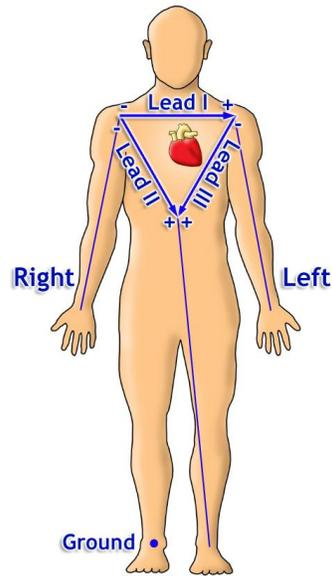

Figure 1: Einthoven Triangle LEAD Connections (Note Polarity)
1. Prep skin, place one EL503 electrode to the Right Leg (RL) location and then place two EL503 electrodes at the below indicated locations, for the desired LEAD, as illustrated in Figure 1: